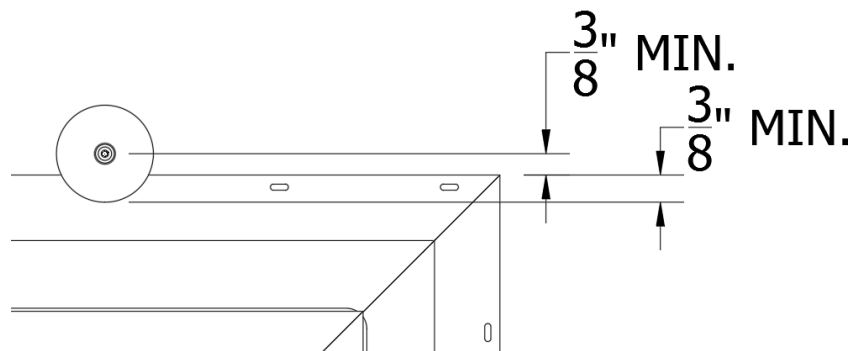

Figure 25: Head Washer Fastening
- II) A minimum of 3/8" space should exist between the bottom of the faster shaft and the top of the flange allowing for normal building movement. The washer should also be large enough to overlap the flange a minimum of 3/8" and maximum of 3/4". See figure 25.